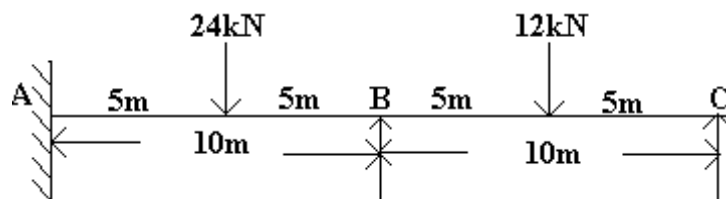

Figure 4:
8. Using stiffness-method find the support moments for the two-span continuous beam loaded as shown in Figure 4 and sketch the B.M. and S.F.D. ($E I = \text{constant}$).[16]